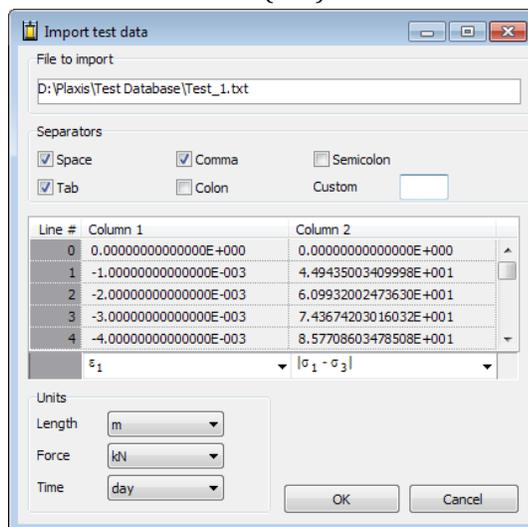

Figure 193: **Import test data** window
- If the test data corresponds to one of the *Current model test* conditions, the corresponding line should be selected in the tree and the *Import curve* option should be used to upload the test data (Figure 193: Import test data window (on page 278)). The test data are assumed to be stored in a text file (<data>.txt) and should contain two columns, separated by a *Space, Tab, Comma, Colon (:), Semicolon (;)* or arbitrary character. The separator is to be indicated at the top of the **Import test data** window. The meaning of the values in each column has to be selected from the drop down list below the column. Here, a selection can be made amongst various stress and strain quantities. Moreover, the basic units of the test data quantities need to be selected from the drop down lists in the *Units* group. By pressing *OK* the data is read and visualised in a diagram, and the curve is listed in the tree under the *Current model (test)* conditions.